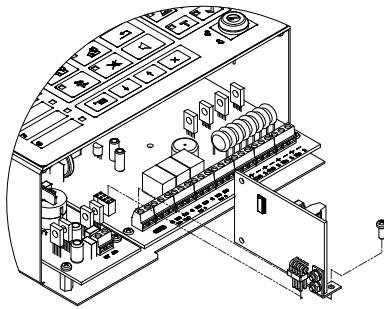
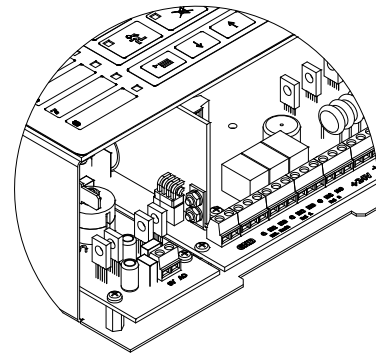

Fig.6
Fig.7
2.6. Install the module as shown on Fig.6 and fix it by means of the third screw from the set. The general view of the Fire Control Panel FS5100 with installed module is shown on Fig.7.